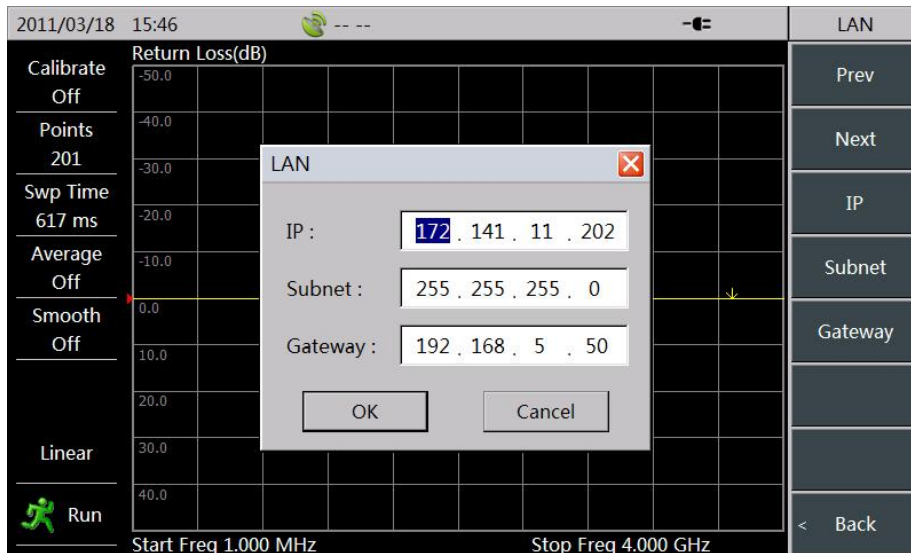

Figure 6-12 LAN—IP Configuration
- Click [IP] menu on menu bar and switch cursor to IP address configuration column and input IP address of each segment with numeric keys. You may switch to each segment via [Next] and [Prev]. As shown in Figure 6-12: